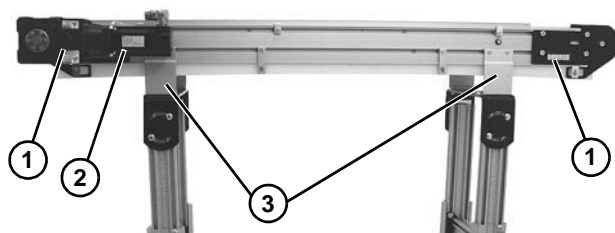

Figure 20
1. Place temporary support stands at both ends (**Figure 20, item 1**) of the conveyor. Place an additional support stand under the drive motor (**Figure 20, item 2**), if equipped. See WARNING.
2. Remove mounting brackets (**Figure 20, item 3**) from one side of conveyor. (Reverse steps 3 & 4 of “Mounting Brackets” section on page 8).